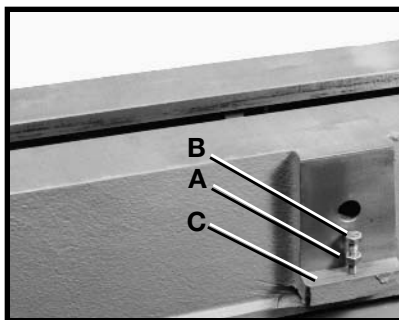

Fig. 7
1. Thread M6 Hex Nut, one of which is shown at (A) Fig. 7 on M6 x 30 hex head screw (B) and thread the hex head screw (B) into mounting ledge (C) at the front of the lathe bed. Similarly, thread the remaining M6 x 30 hex head screw with lock-nut to the mounting ledge on the other end of the lathe bed in the same manner. **NOTE:** To make the installation easier, adjust the two hex head screws (B) Fig. 7 so the tops of screws (B) are equal to each other in length. Tighten hex nuts (A) Fig. 7 against ledge (C).